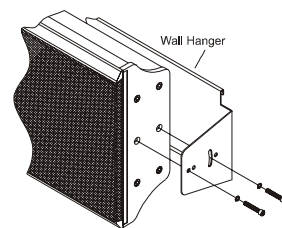

Figure 5
13. Using the supplied Allen Wrench and remove the Wall Hanger Bracket from the XR27 Loudspeaker. Refer to figure 5